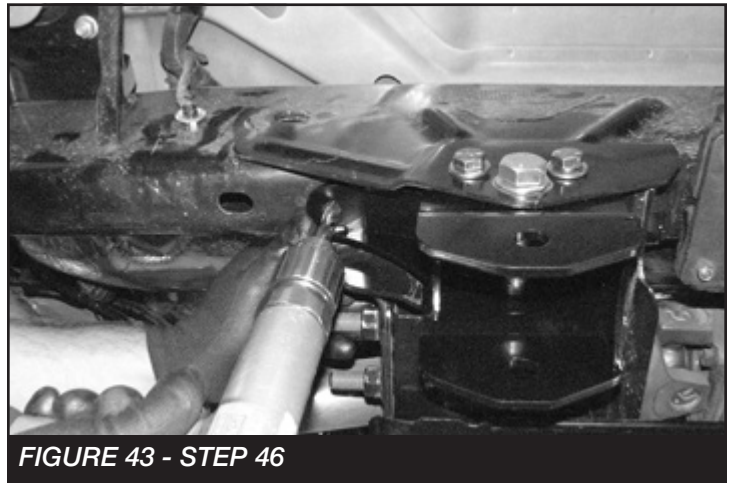

FIGURE 43 - STEP 46
46. Using the Fabtech the radius arm drop bracket as a drill guide, drill a 1/2" hole through the bottom of the frame. **SEE FIGURE 43**